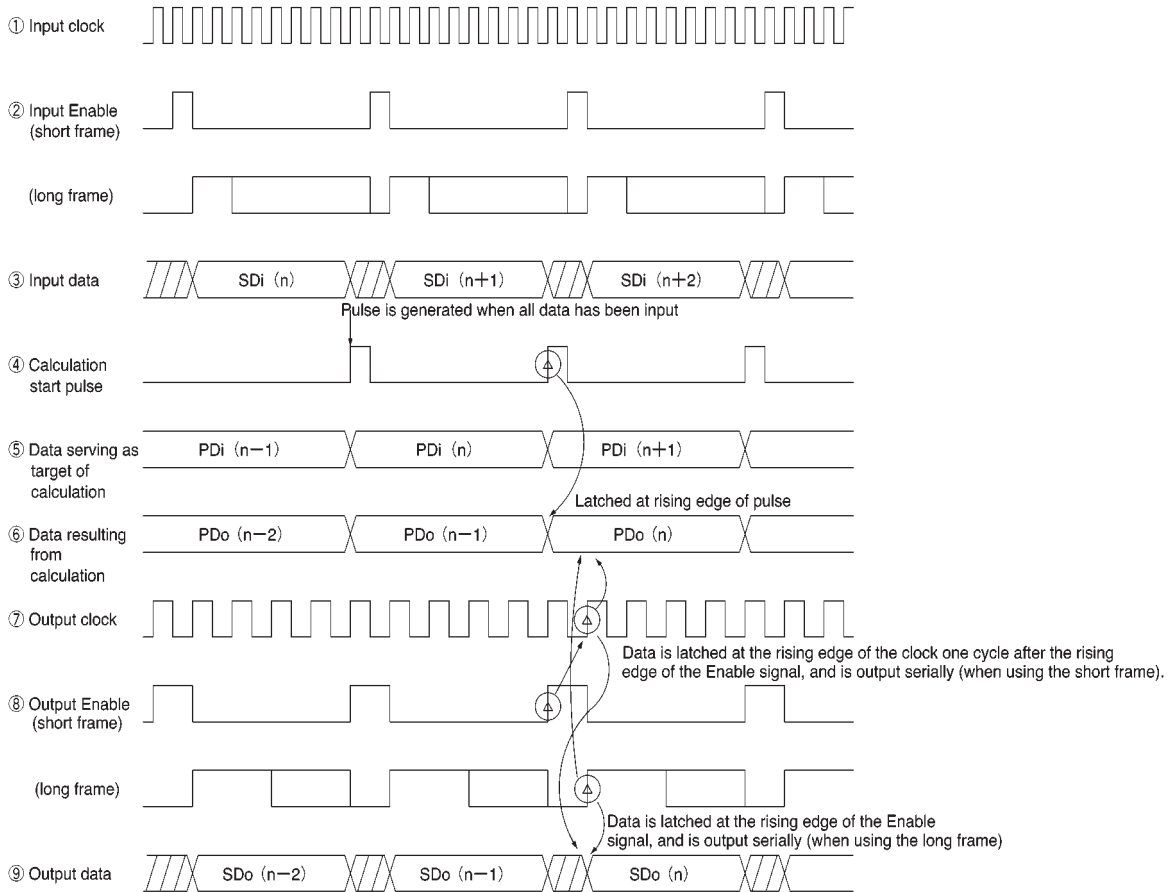

Fig. 21 Data delays for the encoder
In Figures 21 to 24, the timings for items ① to ③ and ⑦ to ⑨ are indicated as seen from the pins, while items ④ to ⑥ show internal signal states. The items are explained below, in numeric order.
1. An 8-bit or 4-bit data row is input serially based on the input clock ①, Input Enable signal ②, and input data ③. Figures 21 to 24 show the states for the normal mode only. The timing for the synchronous mode is equivalent to that for the long frame in the normal mode.
2. Immediately after the 8-bit or 4-bit data has been input serially at step ①, the calculation start pulse ④ is generated. Also, at this point, the data which is the target of the calculation ⑤, which has been converted from serial to parallel data, is prepared as parallel 8-bit or 4-bit data.
[Supplementary information for Figures 21 ~ 24]
Figure 21 shows the data delays that take place with normal ADPCM calculation for the encoder.
As shown in Figure 21, if the input clock exceeds 64kHz and the output clock exceeds 32kHz, and the Input Enable and Output Enable are in the same phase, a delay equal to two data samplings will occur. Delays occurring under other conditions can also be determined based on Figure 21.